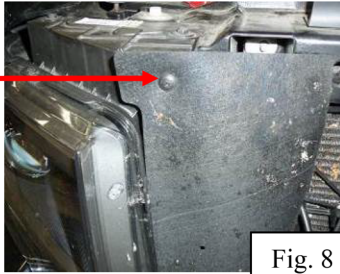

Fig. 8
- Using a Phillips screwdriver and trim tool remove the plastic clip holding the rubber air deflector on the passenger side of the truck next to the headlight (Fig. 8).